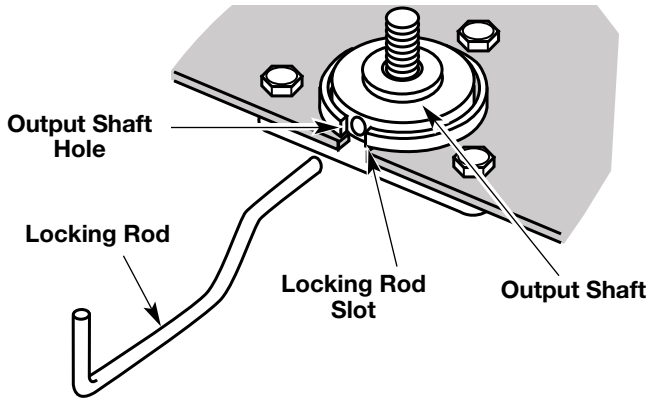

Fig. 26
1. Line up the hole in output shaft with the locking rod slot. Insert the locking rod through the slot into the output shaft hole (Fig. 26).